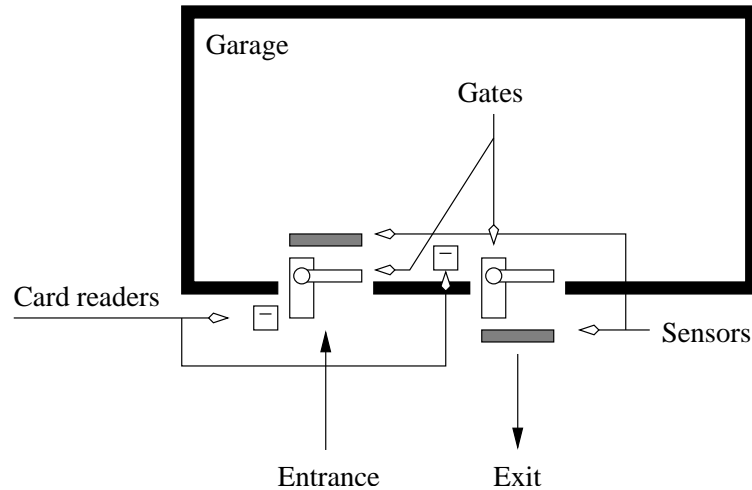

Figure 8.5: The layout of an automated garage.
14. **(36 pts.)** You are to construct a digital circuit to control access to an automated parking garage containing 828 parking spaces. Drivers pull up to the garages gate and insert their pass card into a card reader. The card reader sends the pass card id number to your digital circuit. If their pass card has a valid code then the gate opens. There is a pressure sensor just inside the entry way which sends a signal to your circuit whenever a significant load is present (over 150 lbs). The exit procedure is similar, the users have to insert their pass card into a card reader. Your digital circuit then raises the exit gate bar, a pressure sensor at the exit tells your circuit when it is OK to close the exit gate. See Figure 8.5.